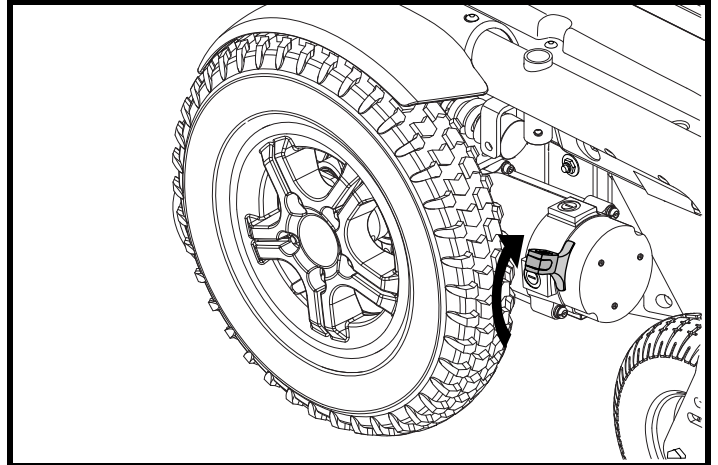

Figure 9. Drive Mode (Drive Engaged) - Hammer Motor
2. Pull the manual freewheel lever up for drive mode (drive engaged). See figure 9 or 11.